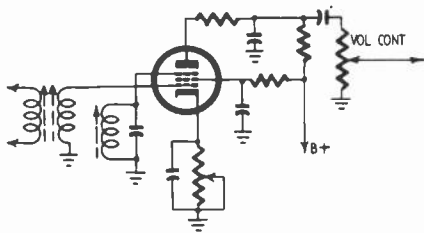

Fig. 6-B. Gated beam FM detector circuit.
**SYMPTOMS:** The gated-beam FM detector circuit (Fig. 6-B) becoming increasingly employed by set manufacturers, incorporates a 6BN6 tube serving as a limiter-detector in the audio circuit.